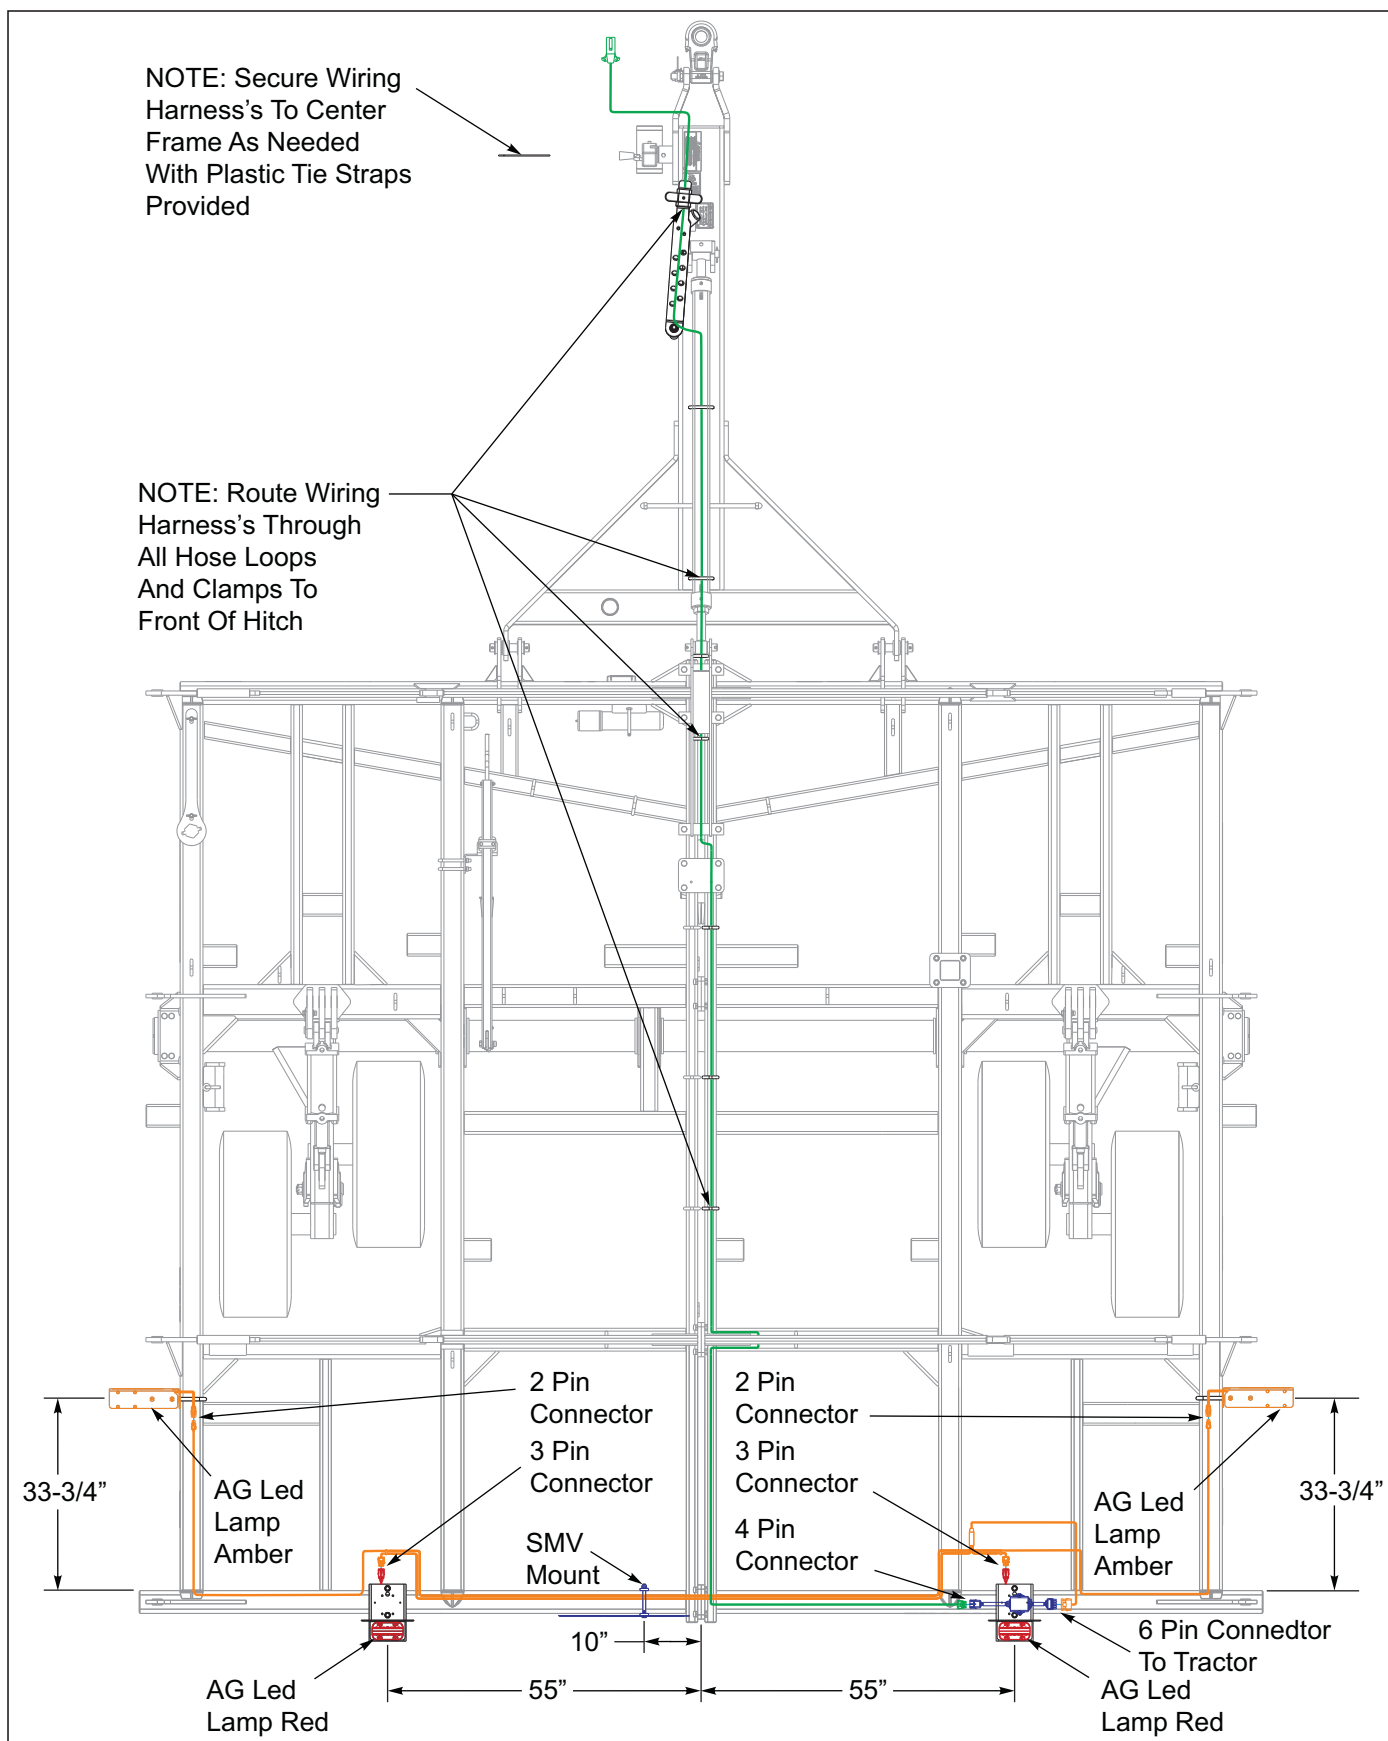

Figure 3-30: Light Brackets & SMV Placement
5. ***See Figures 3-30*** for light bracket placements.
11. ***See Figures 3-30*** for smv placement, wiring harness routing and connector locations.